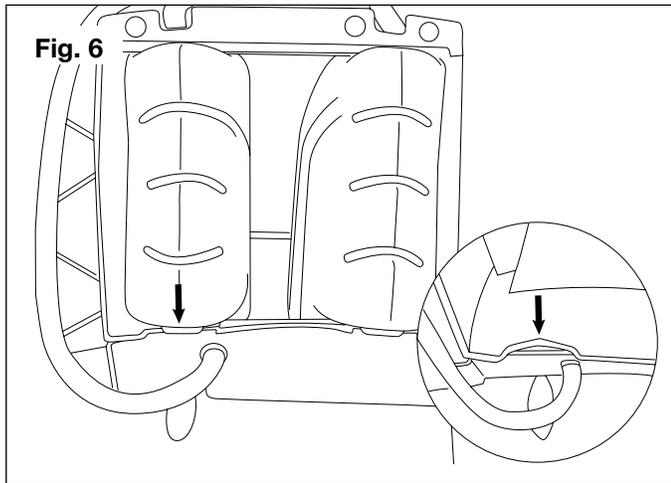

Fig. 6
5. Insert the detergent bottles (top end first) under the ridge of their designated storage compartment (Figs. 4 & 5). Then snap the bottom of the bottles into the V-shaped grooves to secure them in place (Fig. 6).